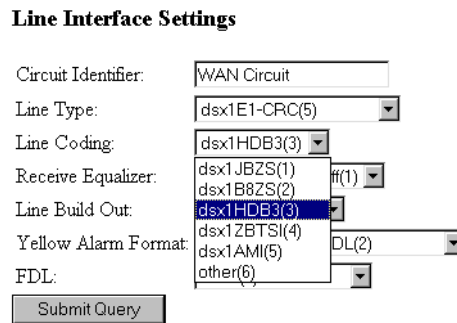

Figure 38. Line Coding pull-down menu with dsx1HDB3(3) selected
- From the *Line Coding* pull-down menu (figure 38) select *dsx1AMI(5)* or *dsxHDB3(3)*. Most installations will use HDB3.